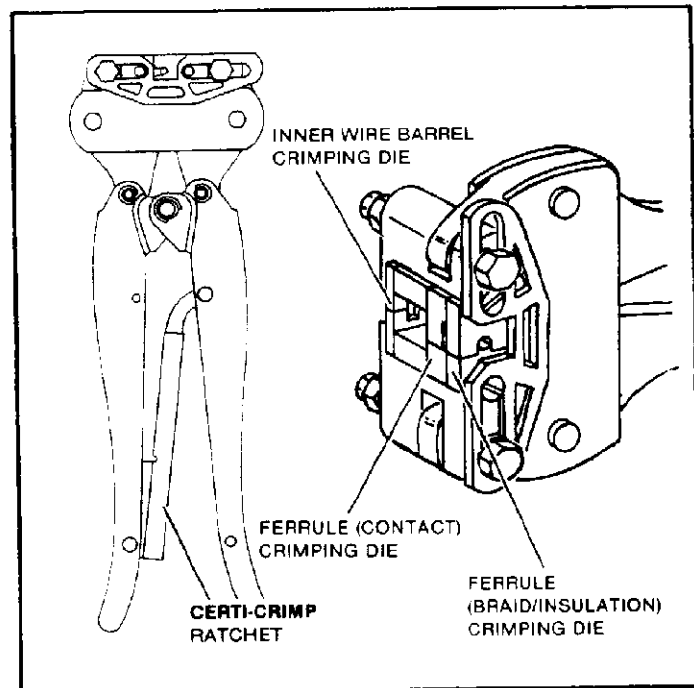

Figure 5
The crimping tool has 3 sets of crimping dies as shown in Figure 5.
- Align contact portholes with inner wire barrel crimp dies. Locate contact so that one wire barrel crimp die enters oval-shaped porthole as shown in Figure 5(a).